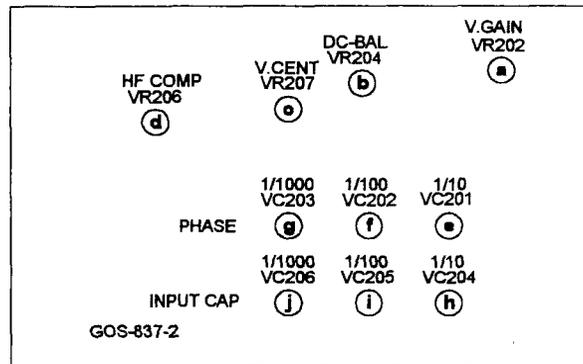

Fig. 19. Vertical circuit board. for each of the vertical
2. Adjust the DC BAL potentiometers (pots) VR201 (see Fig. 1 (14)) and VR204 (see Fig. 19 (b)) until the trace does not shift when the VERT.VAR. control is turned.
2. Adjust HF COMP pot VR206 (see Fig. 19 (d)) so that the display has flat extremes as shown in Fig. 15.
4. Adjust the V. GAIN pot VR202 (see Fig. 19 (a)) so that the observed waveform is exactly 5 divisions high.
2. Adjust the internal V.CENT pot VR207 (see Fig. 19 (c)) to center the trace on the screen.
1. Six frequency compensation trimmers are in the scope, two for each of the vertical deflection ranges 5V/div, 0.5V/div and 50mV/div. VC201, VC202 and VC203 are for direct input compensation (1:1) and VC204, VC205 and VC206 are for compensation using the 10:1 attenuator input probe. (see Fig. 19) Optimum compensation is obtained when the VERT. VAR. control is fully clockwise in the CAL position. Since compensation of the 3 Vertical ranges is necessary, square waves of different amplitudes will be necessary. The square waves should be at a frequency of 1kHz and be of good quality with flat amplitude extremes.
3. Adjust VC201 (see Fig. 19 (e)) for flat extremes on the square wave. See Fig. 15 for representative waveforms.
5. Adjust VC202 (Fig. 19 (f)) for flat extremes on the square wave. see Fig. 15 for representative waveforms.
7. Adjust VC203 (Fig. 19 (g)) for flat extremes on the square wave. See Fig. 15 for representative waveforms.
8. For 10:1 compensation use the 10:1 attenuator probe and repeat steps 2 through 7 above multiplying the required square wave input amplitude by 10 and adjusting VC204 (Fig. 19 (h)) for step 3, VC205 (Fig. 19 (i)) for step 5 and VC206 (Fig. 19 (j)) for step 7.